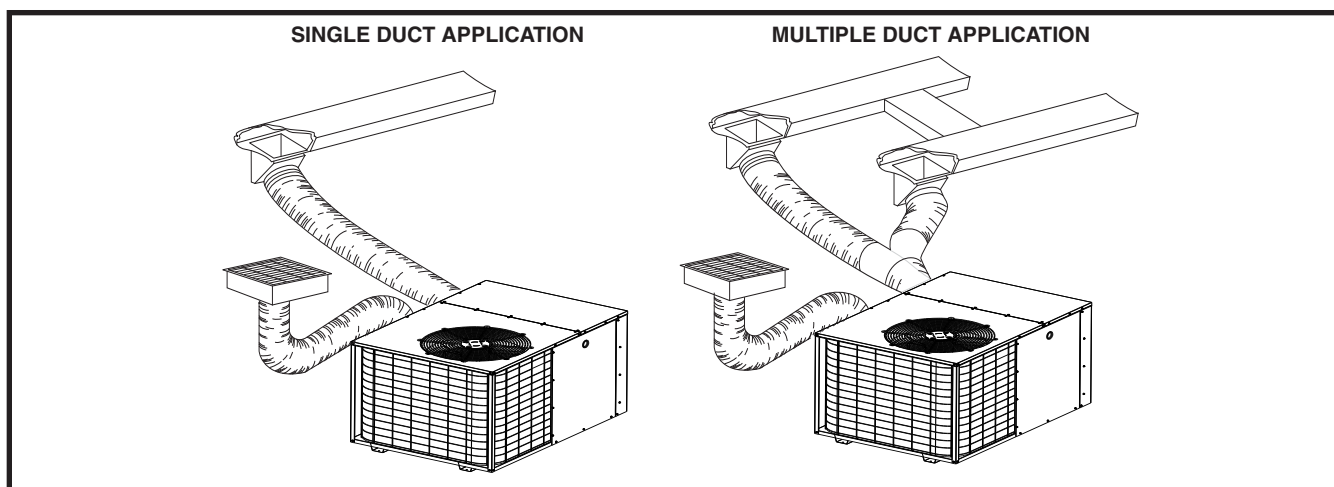

Figure 3. Single & Multiple Duct Applications
- The supply duct system, including the number and type of registers, will have much more effect on the performance of the system than any other factor. The duct must be sufficiently large to conduct an adequate amount of air to each register. See Figure 3 (page 7).